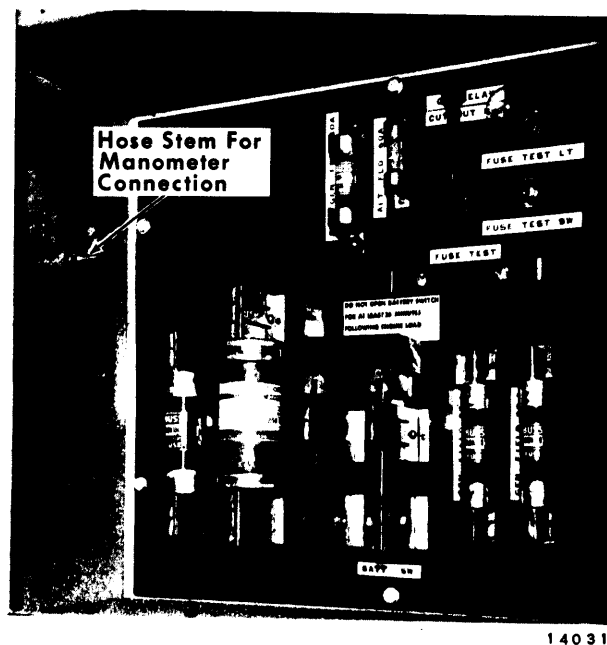

Fig. 4-4 — Hose Stem For Manometer Connection
1. At the locomotive cab, open the switch and fuse compartment door and connect a 1/4 inch I.D. rubber hose to the hose stem, Fig. 4-4, located at the side wall of the compartment. Connect the other end of the hose to a U-tube manometer or other pressure measuring device.